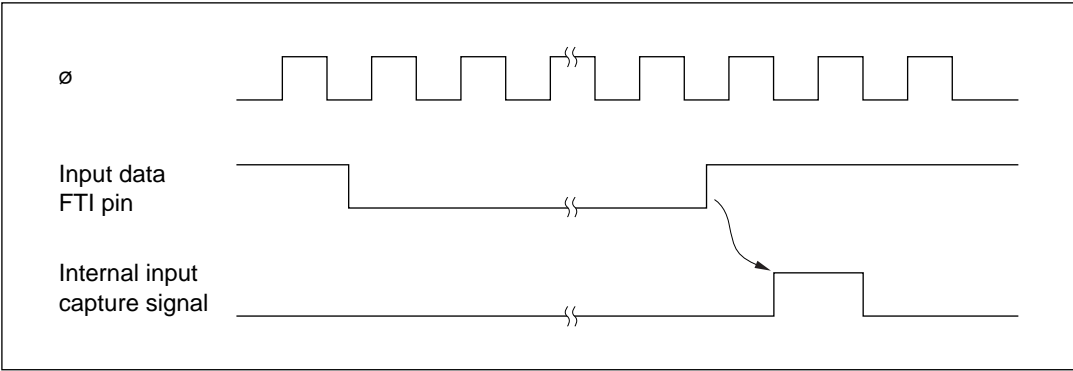

Figure 8-8 Input Capture Timing (Usual Case)
(1) Input Capture Timing: An internal input capture signal is generated from the rising or falling edge of the signal at the input capture pin FTIx (x = A, B, C, D), as selected by the corresponding IEDGx bit in TCR. Figure 8-8 shows the usual input capture timing when the rising edge is selected (IEDGx = 1).